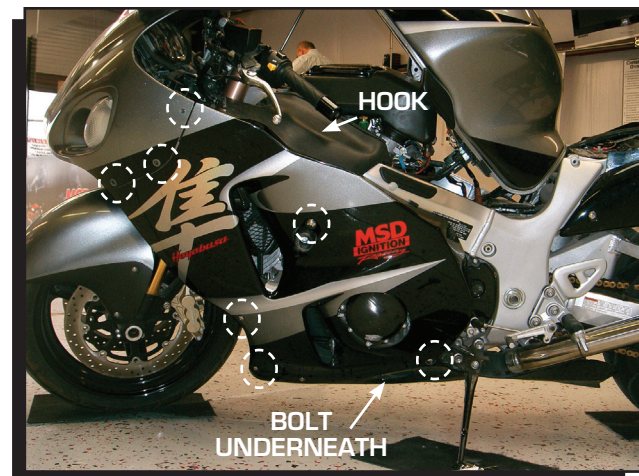

Figure 5 Left Side Panel Removal.
5. Remove the bolts identified in Figure 5. There is also a pin that secures the panel. Slide the panel and remove from the bike.